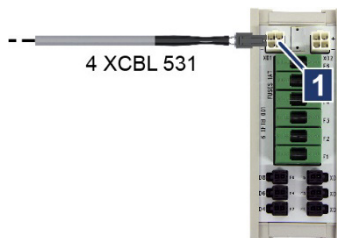

Fig. 6-14: Power supply connected to XFTB
2. Plug the power supply cable 4 XCBL 531 into terminal *XD1* or *XD2* on fuse block XFTB (→ Fig. 6-14/2).